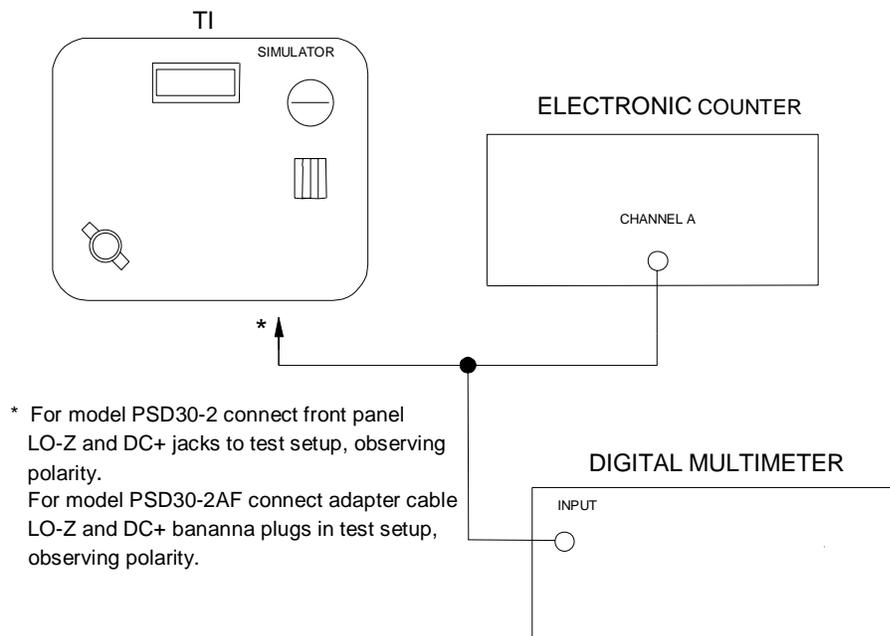

Figure 1.
4.1.1 Connect equipment as shown in Figure 1 and set Digital Multimeter to measure VAC.